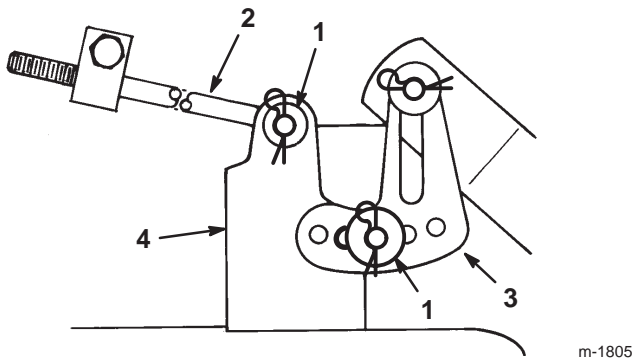

Figure 38
15. Remove the hairpin cotter and washer from the end of the long rod (Fig. 38). Slide the rod out of the mower mount.
16. Remove the hairpin cotter and washer at the mower leveling bracket (Fig. 38). Slide the bracket off of the mounting pin. Install the washer and hairpin cotter for storage.